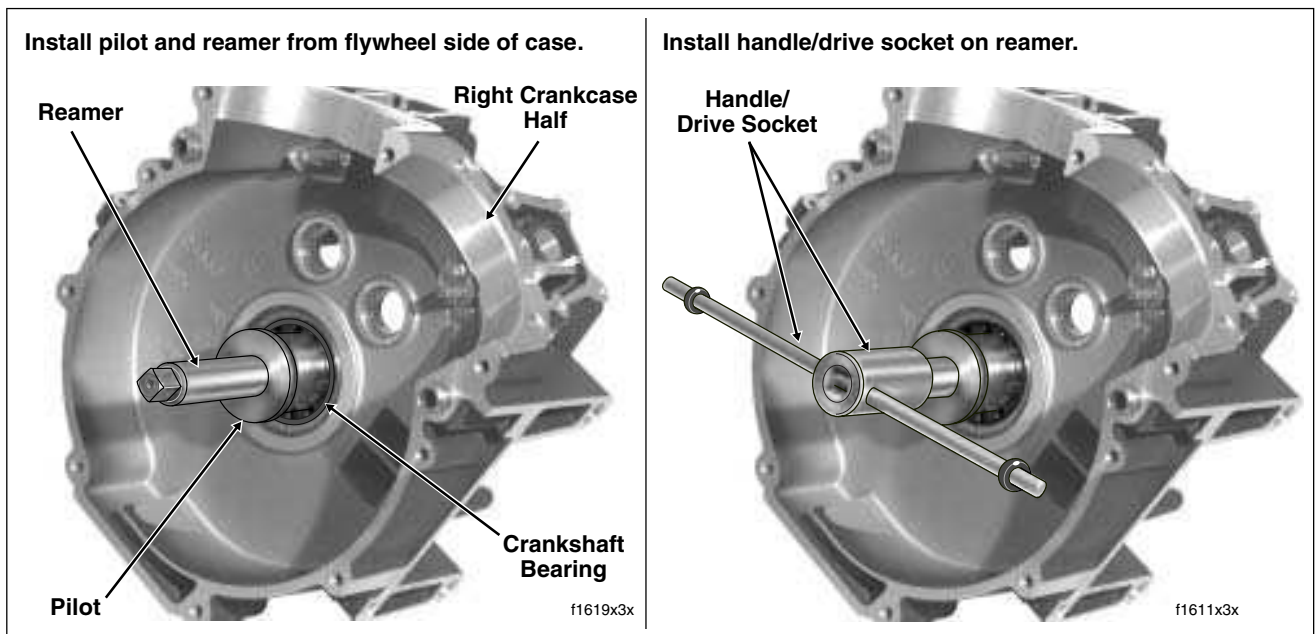

Figure 3-104. Ream Crankshaft Bushing
- a. From flywheel compartment side, carefully insert tapered end of reamer pilot into crankshaft bearing until it stops. See left frame of Figure 3-104.
- c. Install handle/drive socket on reamer lug. See right frame of Figure 3-104.